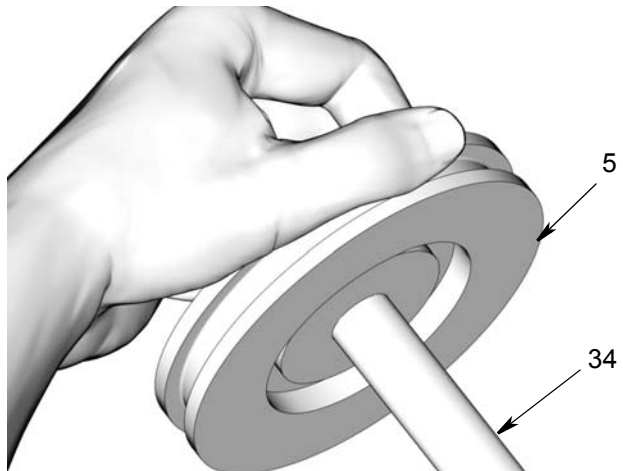

FIG. 31
6. Push piston (5) over end of piston rod (34) until it is seated on the rod (FIG. 31).
7. Install nut (37) over the end of the piston rod (34). Use two wrenches, working in opposite directions to tighten the nut. Secure one open end wrench to flats of piston rod and use the second wrench to tighten the nut as shown in FIG. 31. Torque nut to 13 to 15 ft. lbs (17.6 to 20.3 N.m).